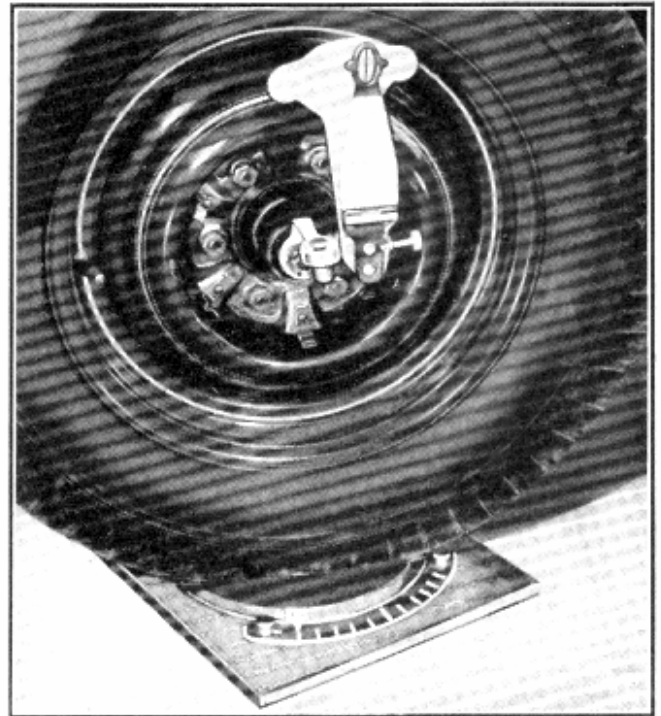

Fig. 41—Checking Kingpin Inclination
5. Now turn the wheel IN 25° and adjust the gauge until the bubble in the level is centered and read the amount of king pin inclination on the scale, Fig. 41.